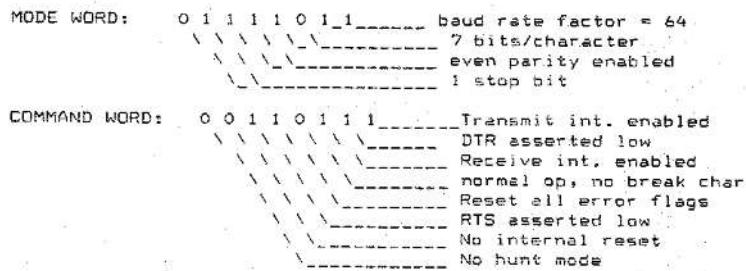

FIGURE 14-1. Bit format for the mode and command words for question 14-7a.
1. The bit format used for asynchronous serial data is shown in Figure 14-1 on page 488 of the text.
- a. The bit patterns for the mode and command words for the 8251A are shown in Figure 14-1.